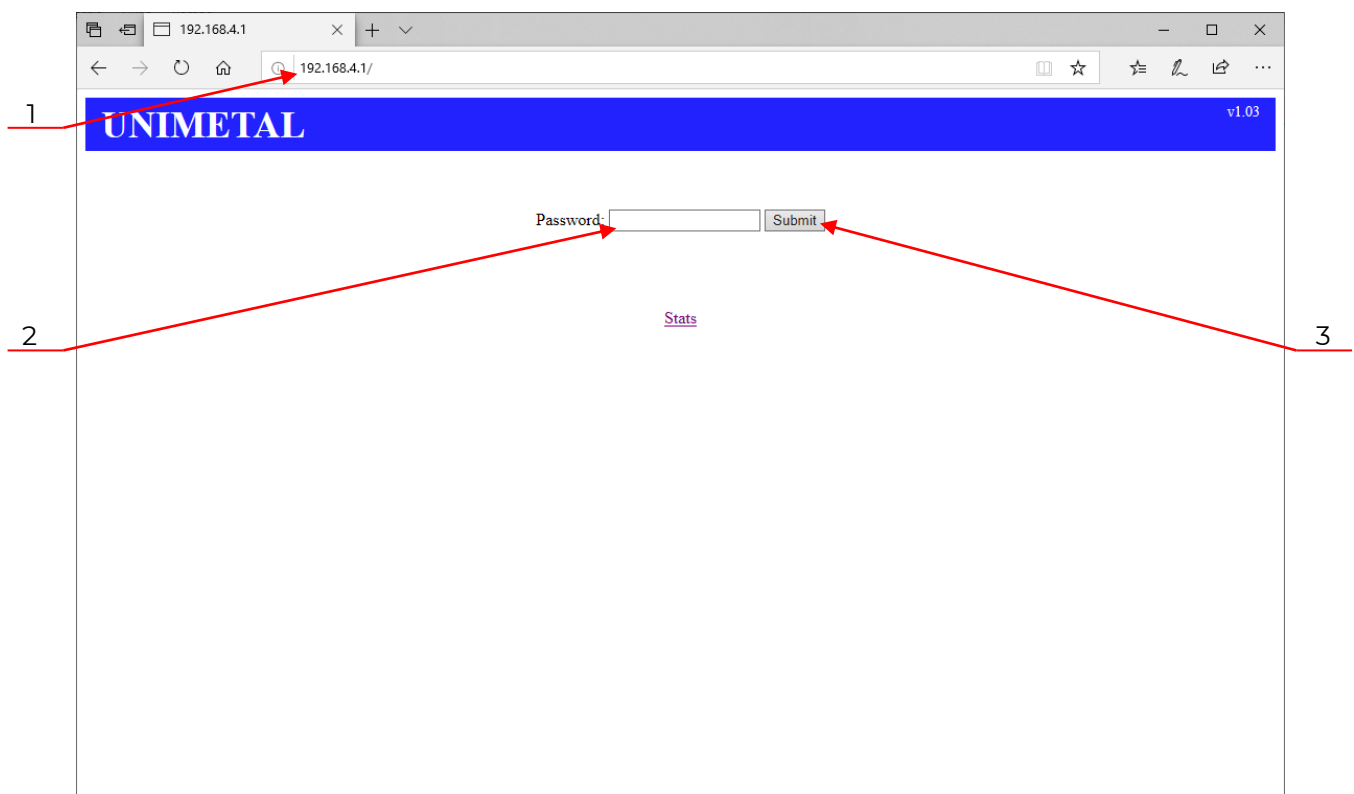

Fig. 7 – Browser tab
- (1) Start the BMD-400 devices application installed on the computer.
- (2) Enter the IP address in the application, the IP address depends on the configuration of the device's network settings. To configure the device network settings, connect with them in the AP mode. After connect in the AP mode, enter in the browser (1) (Fig.7) the address: "192.168.4.1" and click "enter". After this the tab with text field to enter the password will be displayed (Fig.7).
- (3) In text field „Password” (2) enter „unimetal12” and click „Submit” (3) (Fig.7).